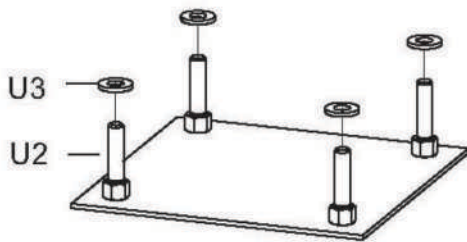

FIGURE 1A
- A. Slide a 16mm Thick Washer (U3) over each of the J-Bolts (U2) as shown in FIGURE 1A.